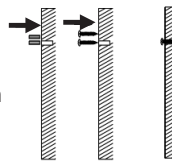

Fig. 2
4. If the wall is plasterboard or concrete, push the 2 expansion anchors (included) into the holes and use a hammer to carefully tap the anchors until they are flush with the wall (Fig. 2).
5. Screw the 2 mounting screws (included) into the holes, leaving the screw heads **2 mm** outside the wall to hang the fan (Fig. 2).